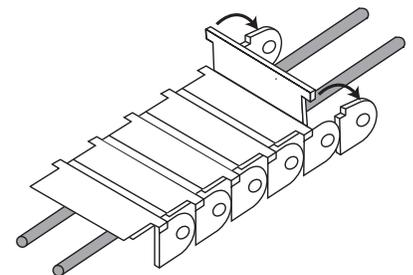

Figure 9: Cable Guide Cover
17. Reconnect the cable guide cover removed in Step 5 to the cable guide base to contain the tubing as shown in Figure 9.